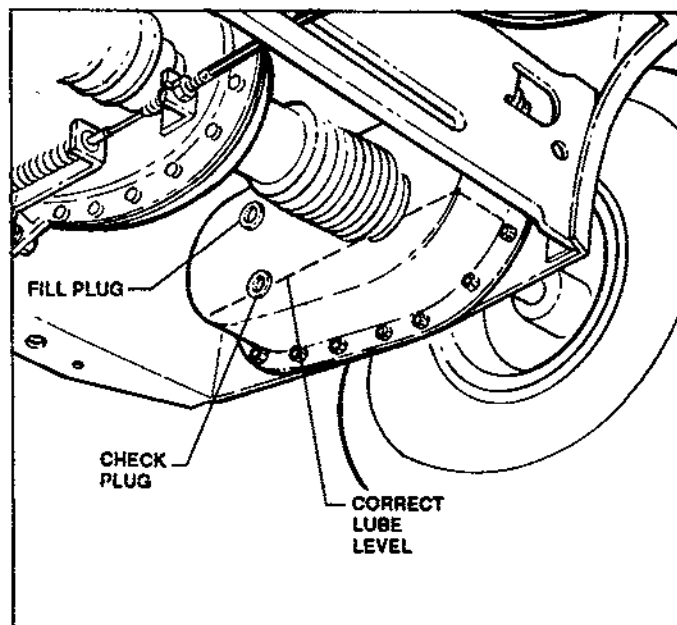

FIGURE 16
- Remove CHECK PLUG on inside of unit shown in Figure 16 to check level of oil. Add SNAPPER "O" grease as needed thru upper fill hole to bring the level up to the lower edge of the CHECK PLUG HOLE. Reinstall NEW plugs after servicing.